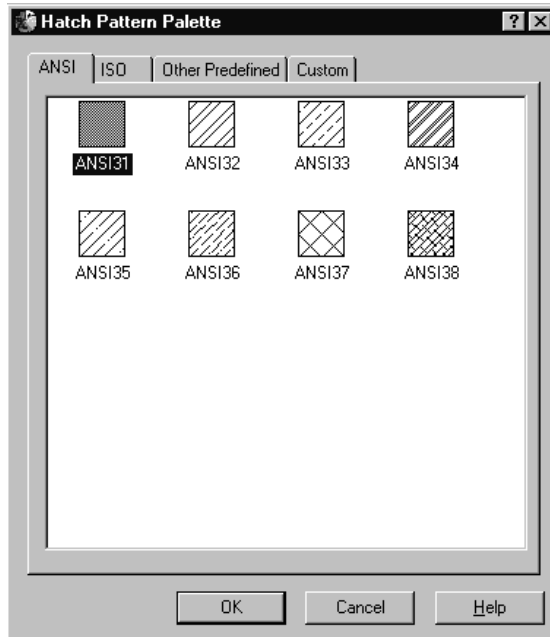
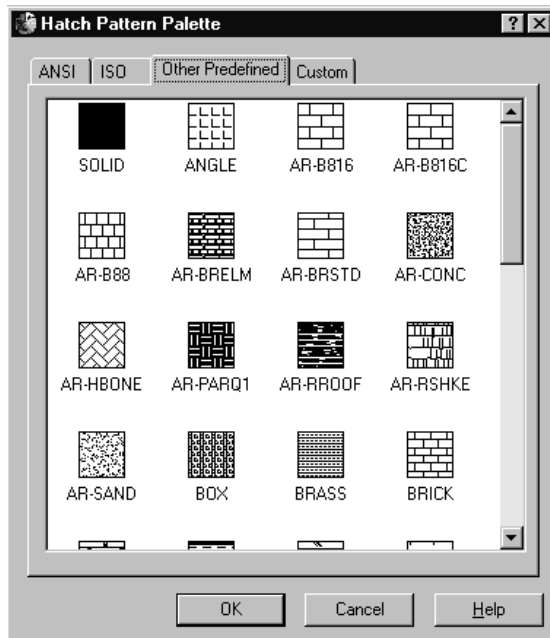

Figure 4-50
Figure 4-51
2. Pick the box named **Swatch**. This will bring up the Hatch Pattern Palette, shown in Figure 4-50. Change the tab from ANSI to **Other Predefined**, shown in Figure 4-51.